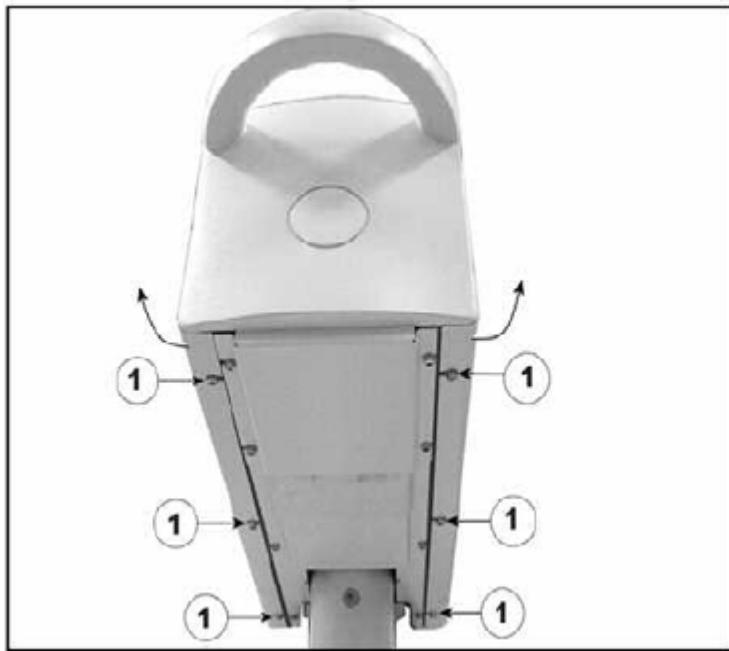
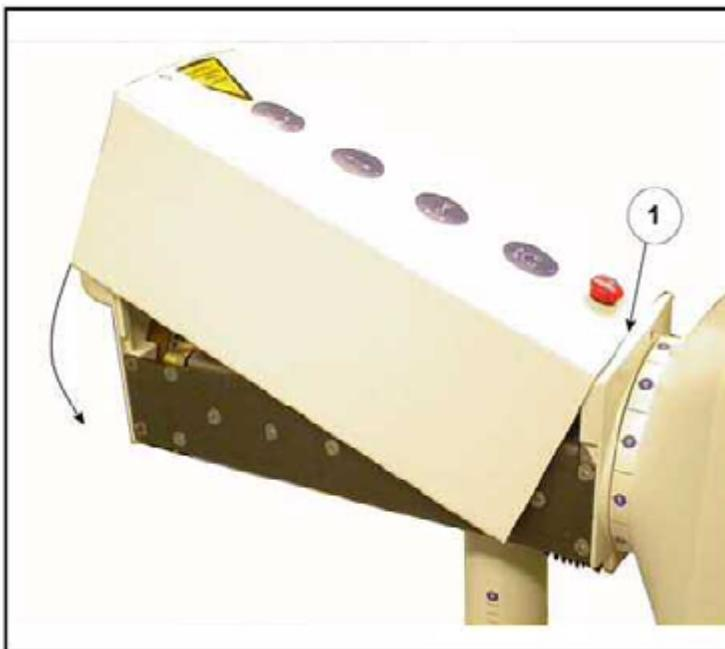

Fig. 4: Cover 1
Fig. 5: Cover 2
1. Loosen the 6 mounting screws (\(1/Fig. 4 / p. 21\))
2. Expand the cover at the rear end in the direction of the arrow (see (Fig. 4 / p. 21)) and remove it in a downward direction.
- ⇒ Expand the cover at the rear end(see (Fig. 4 / p. 21)) far enough that, as shown in (Fig. 5 / p. 21), it lies obliquely over the horizontal carriage in the edge, (\(1/Fig. 5 / p. 21\)).
2. Expand the cover at the rear end (see (Fig. 4 / p. 21)) far enough that, as shown in (Fig. 5 / p. 21), it lies obliquely over the horizontal carriage in the edge, (\(1/Fig. 5 / p. 21\)).
3. Press on the top surface of the cover, without grasping the sheet metal edges, until this slides over the lower edge of the horizontal slide. Make sure that the cover does not slide out from the edge (\(\(1/Fig. 5 / p. 21\)\).
5. Fasten the cover with the 6 Allen screws (\(\(1/Fig. 4 / p. 21\)\).